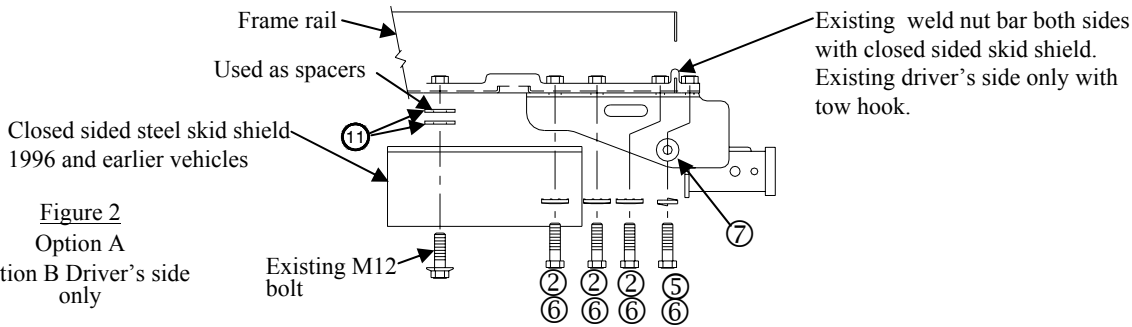

Figure 2
See Figures 2, 3, 4 & 5 for proper fastener combinations
Note: Five (5) installation options are possible depending on vehicle configuration refer to Figures 2, 3, 4 and 5.
2. Option A – See Figure 2.
Option C – See Figures 2 & 3